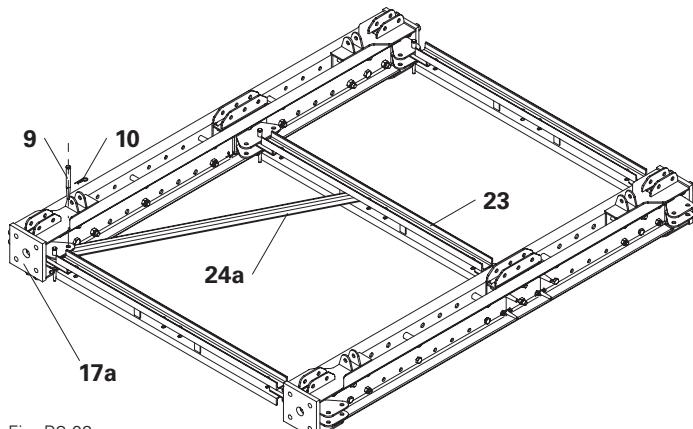
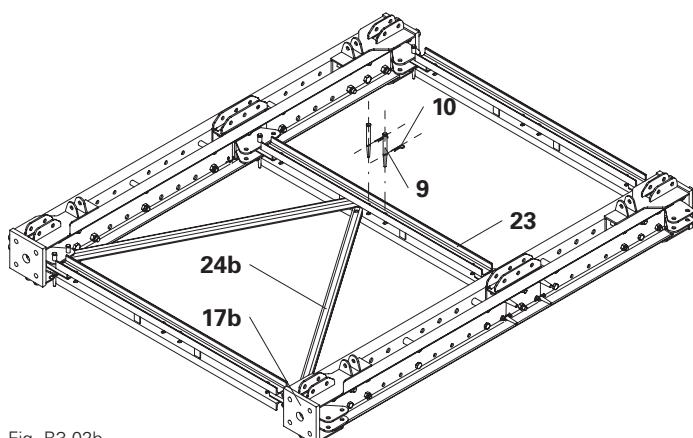

Fig. B3.02a
Fig. B3.02b
1. Connect the diagonal strut VST 200/150 (24a)* to the prop base VST 48 (17) using 1x fitting pin Ø 21 mm (9).
2. Swivel the diagonal strut VST 200/150 (24a)* as far as possible into the horizontal ledger VST 200 (23). (Fig. B3.02a)
3. Connect the second diagonal strut VST 200/150 (24b)* to the other prop base VST 48 (17) using 1x fitting pin Ø 21 mm (9).
4. Swivel second diagonal strut VST 200/150 (24b)* into the horizontal ledger VST 200 (23). (Fig. B3.02b)